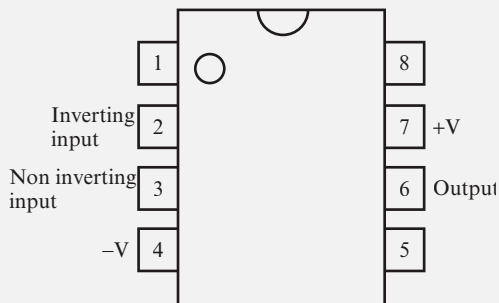

FIGURE 8.36
- One OPA134 operational amplifier. This op-amp comes in a few different packages; get the 8-pin dual in-line (DIP) version. Figure 8.36 shows the pinout diagram for the OPA134. When you insert the op-amp into the breadboard, try not to bend any of the leads. The leads on dual in-line packages are fragile and will break off if you bend them more than once or twice.